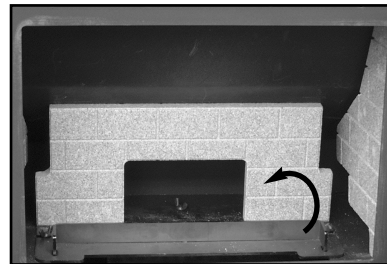

Fig. 3d Rotating the rear lining
4. Rotate the rear lining to bring it vertical (Fig. 3d)